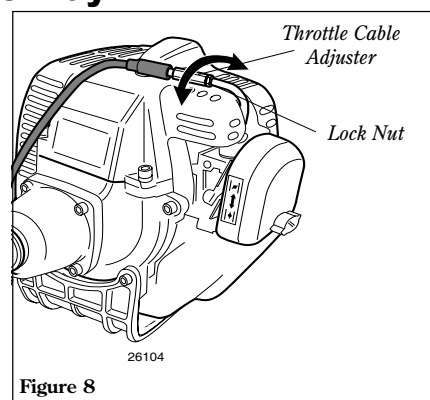

Figure 8
1. Loosen the throttle cable lock nut and rotate the cable adjuster in or out to achieve proper free play of 3/16-1/4 inch (4-6 mm). See Figure 8.